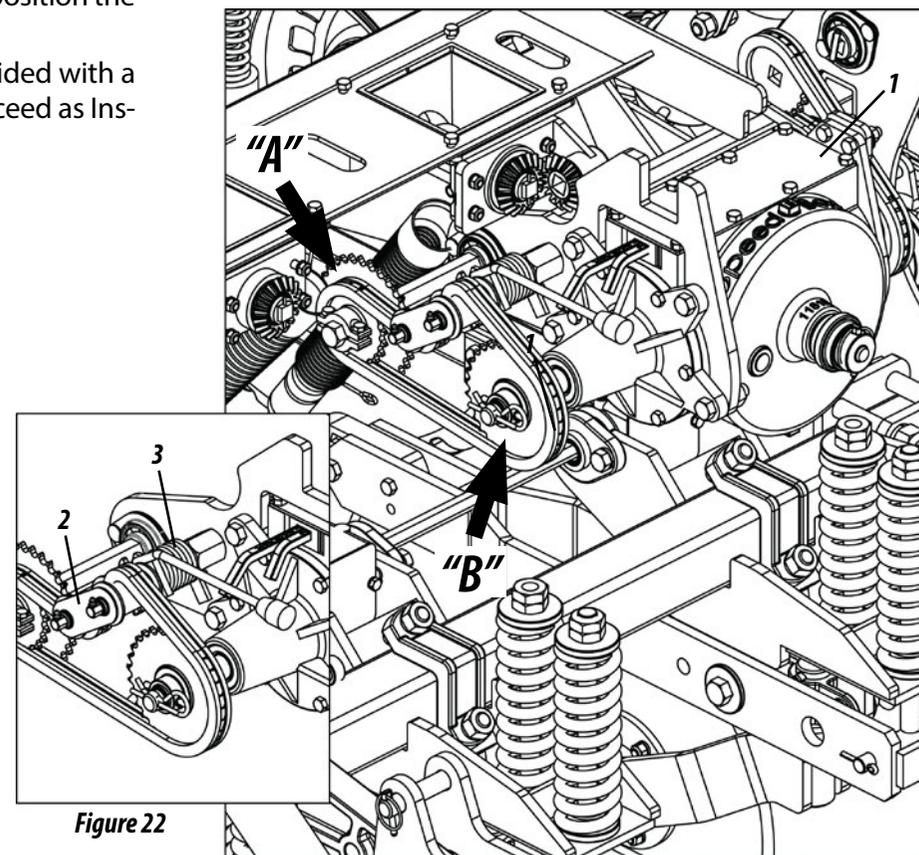

Figure 22
- 01 - The seed distribution adjustment is made by Speed Box (1). For other adjustments, re-position the chain in motor gear "A" and moved gear "B", as shown in Figure 22.